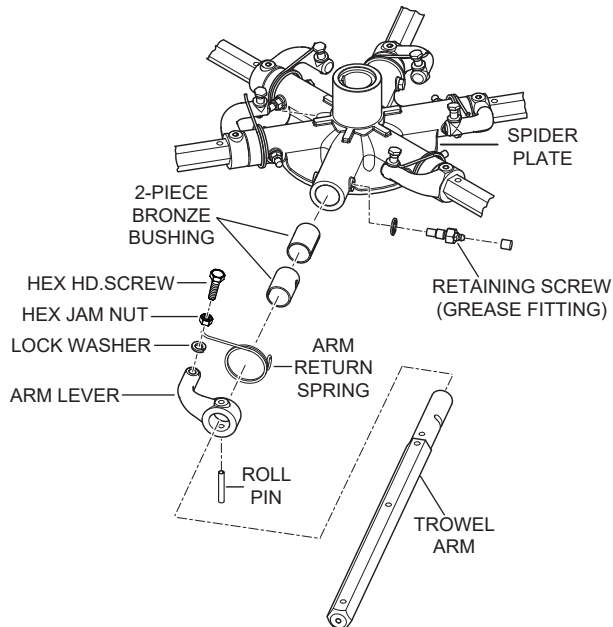

Figure 50. Remove Roll Pin and Zerk Fitting
- Each trowel arm is held in place at the spider plate (Figure 50) by a hex head bolt (zerk grease fitting) and a roll pin. Remove both the hex head bolt and the roll pin from the spider plate.